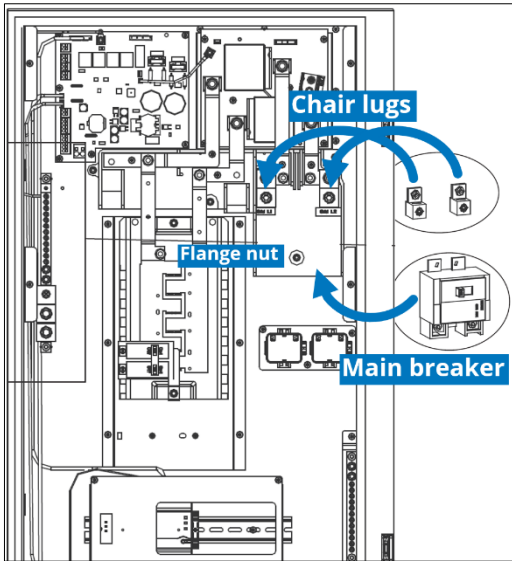

Figure 12: Location of main breaker installation
2. Using a 1/2" socket, remove the two chair lugs and then install the main breaker in their place, using two 1/4"-20 threaded nuts and a 7/16" socket (Figure 12). Torque each nut to 48 in-lb.